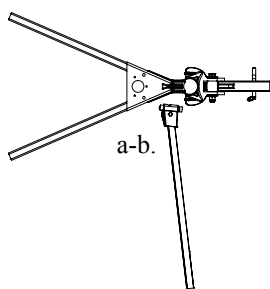

Figure 11a
- Hold the spring arm sideways at a 90 degree angle to the hitch head; parallel to the tow vehicle bumper - see *Figure 11a*.